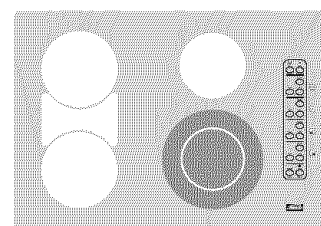
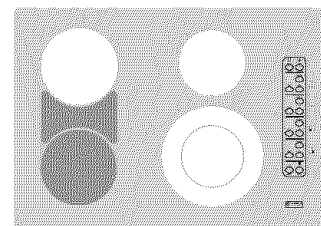

Figure 2
Figure 3
- Touch **POWER ON/OFF** pad (See Figure 3) for 2 seconds, a beep will sound and steady "-" will appear in all displays. Touch **ON/OFF** pad (See Figure 2) of the selected cooking surface and "0" will appear in the display. Touch **▲** or **▼** pads (See Figure 2) to set the element at the temperature desired. To instantly reset temperature to "0" touch **▲** and **▼** simultaneously. A beep will be heard each time the pads are touched.
2. Touch **POWER ON/OFF** pad (See Figure 3, on page 9) for 2 seconds, a beep will sound and steady “-” will appear in all displays. Touch **ON/OFF** pad (See Figure 2, on page 9) of the selected cooking surface and “0” will appear in the display. For smaller cookware, touch **▲** or **▼** pads (See Figure 2, on page 9) to set the element at the temperature desired. If larger cookware is used, touch **BOTH ELEMENTS** pad (See Figure 1, on page 9) and then touch **▲** or **▼** pads to set the element at the temperature desired. You may switch from either of these settings at any time during cooking with the dual element by touching **BOTH ELEMENTS** pad. To instantly reset temperature to “0” touch **▲** and **▼** simultaneously. A beep will be heard each time the pads are touched.
The cooktop contains a Bridge element that you may connect with the left front element to allow for griddle-type cooking with suitably long rectangular or oval cookware. When the Bridge element is engaged, a single control maintains even temperature across both elements. See figure 3. For even longer cookware, turn on the left rear element. See figure 4. Since it has an independent control, you may set the rear element to the same cooking temperature as the Bridge, or to a cooler temperature to create an area on the cookware surface for keeping food warm.
2. Touch **POWER ON/OFF** pad (See Figure 3, on page 9) for 2 seconds, a beep will sound and steady “-” will appear in all displays. Touch **ON/OFF** pad (See Figure 2, on page 9) of the left front